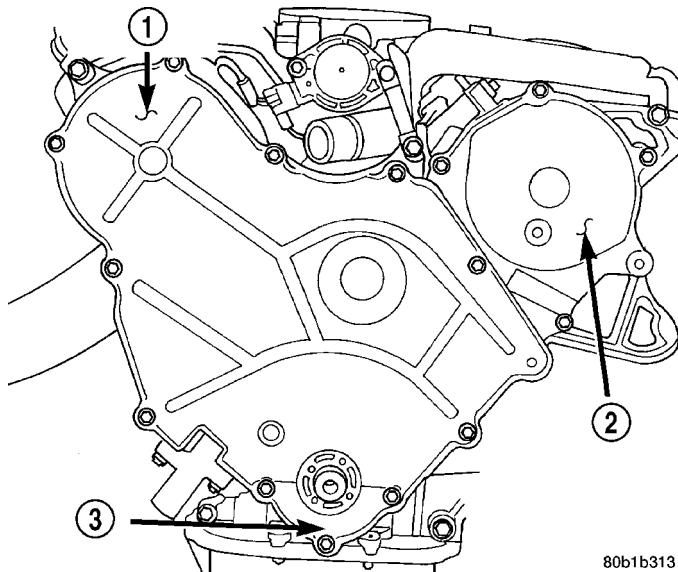
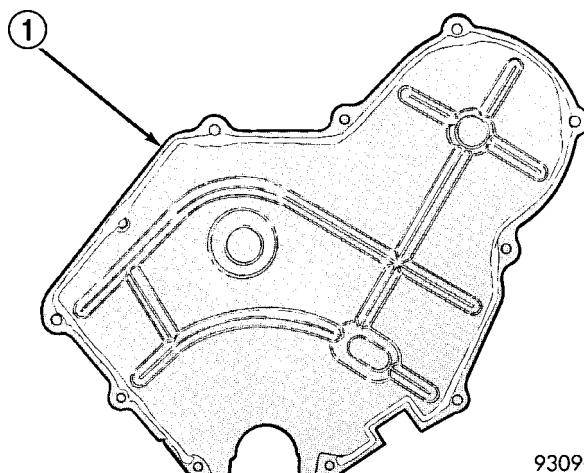

Fig. 135 TIMING BELT COVERS
Fig. 136 TIMING BELT COVER SEALER
(6) Remove the lower belt cover located behind the crankshaft vibration damper (Fig. 135).
(8) Remove the stamped steel cover (Fig. 135). **Do not remove the sealer on the cover, it is reusable (Fig. 136).** If some sealer is missing use Mopar® Engine RTV GEN II to replace the missing sealer.
(9) Remove the left cast cover (Fig. 135).
(1) Install the left cast cover (Fig. 135) and generator/power steering belt tensioner pulley and bracket.
(2) Install the right stamped steel cover (Fig. 135).
(4) Install the lower cover (Fig. 135).
(5) Install the crankshaft vibration damper. (Refer to 9 - ENGINE/ENGINE BLOCK/VIBRATION DAMPER - INSTALLATION)
(6) Install the accessory drive belts. (Refer to 7 - COOLING/ACCESSORY DRIVE/DRIVE BELTS - INSTALLATION)
(7) Install the radiator fan. (Refer to 7 - COOLING/ENGINE/RADIATOR FAN - INSTALLATION)
(8) Install upper radiator crossmember. (Refer to 23 - BODY/EXTERIOR/GRILLE OPENING REINFORCEMENT - INSTALLATION)
(9) Connect negative cable to remote jumper terminal.